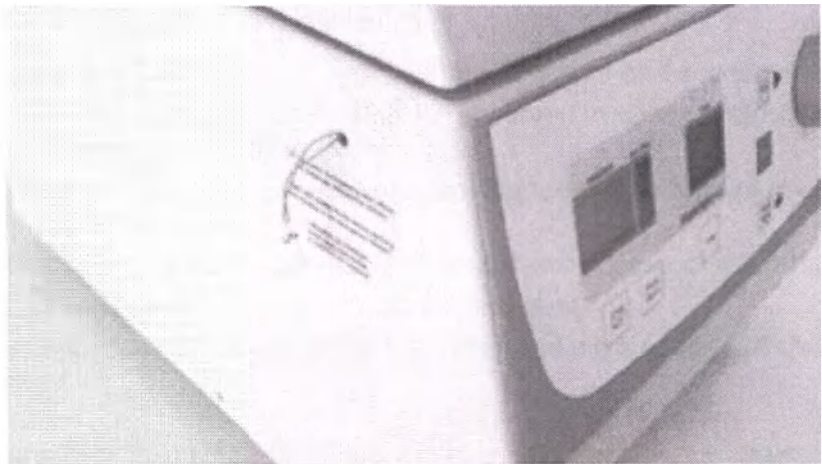

Fig. 28
2. On the left wall of the centrifuge housing there is a hole closed with a plastic plug (see Fig. 28). A cord is attached to the plug, connected to the lid electromechanical lock.